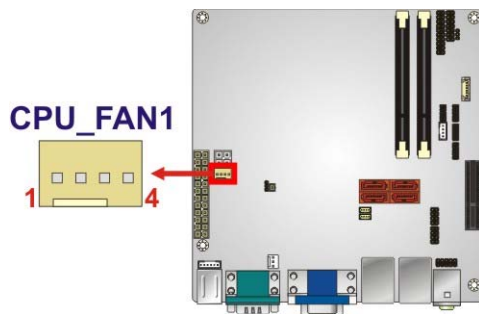

Figure 3-8: CPU Fan Connector Location
- CN Location:** See Figure 3-8